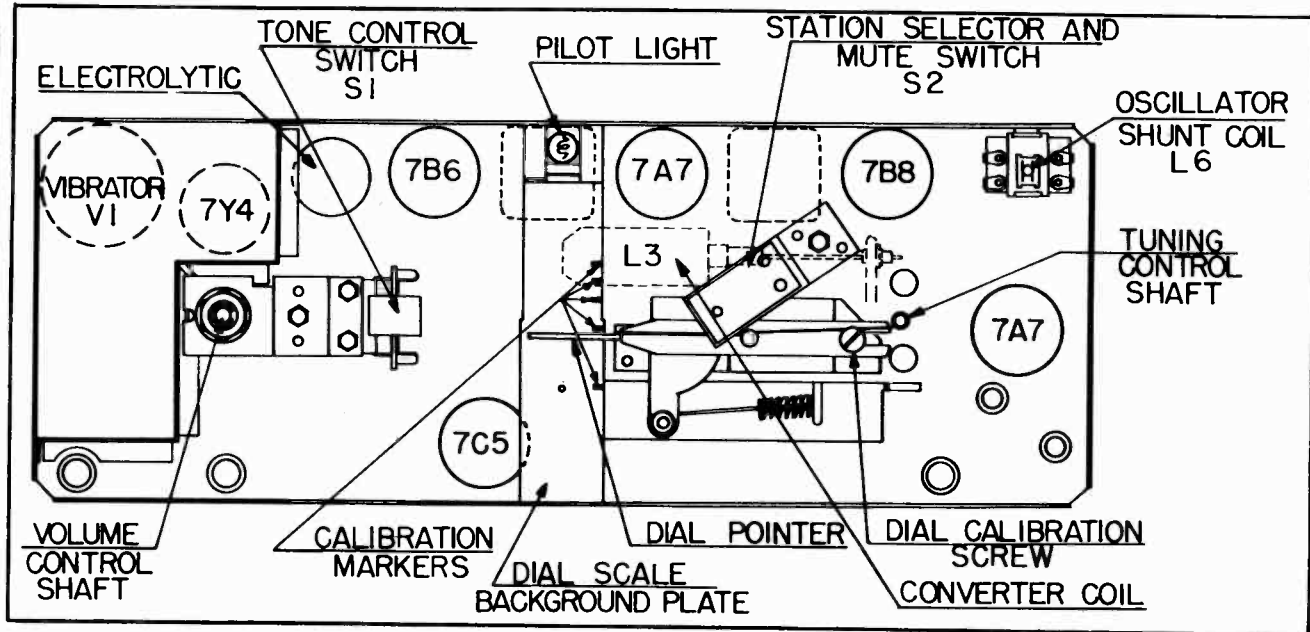

Fig. 11 Front View of Chassis
8. If dial calibration is off after making above adjustments, a correction can be made by tuning eccentric screw at fulcrum of dial pointer. (Fig. 11)
10. Adjust the antenna core L-2, and converter core L-3 (Figs. 11 and 12) for maximum output reading.
12. "Rock in" shunt oscillator coil L-6 (Fig. 11) for maximum output reading. This should be done only as a last resort. This is the same as rocking in the padder condenser on a gang condenser receiver.